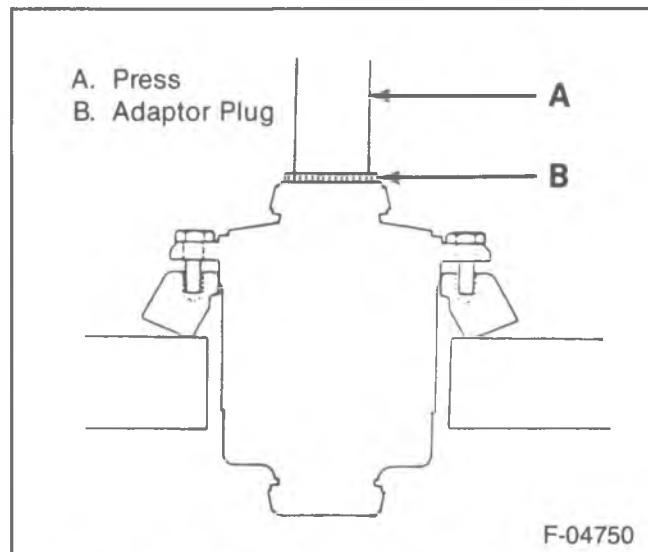

Figure 79—Ring Gear to Case Installation
- Differential pinion gears (32) and thrust washers (31) to the spider (33).
- Differential side gears (29) and thrust washers (30) to the differential case halves in their original locations.
- Differential spider (33) to the differential.
- Ring gear (14) to the differential (figure 79).